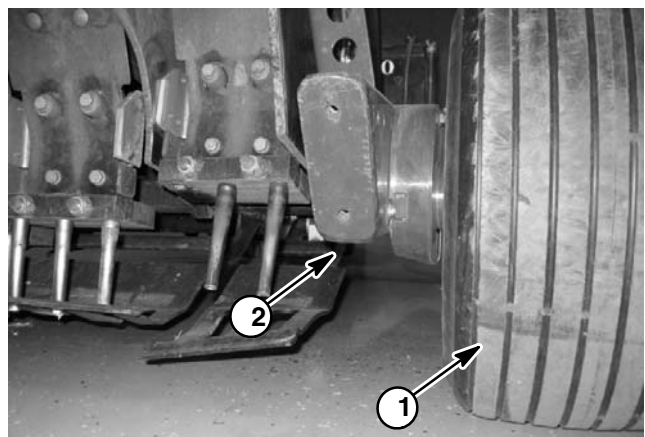

Figure 3
3. Place jack securely under the main frame just inside of the rear wheel (Fig. 3).